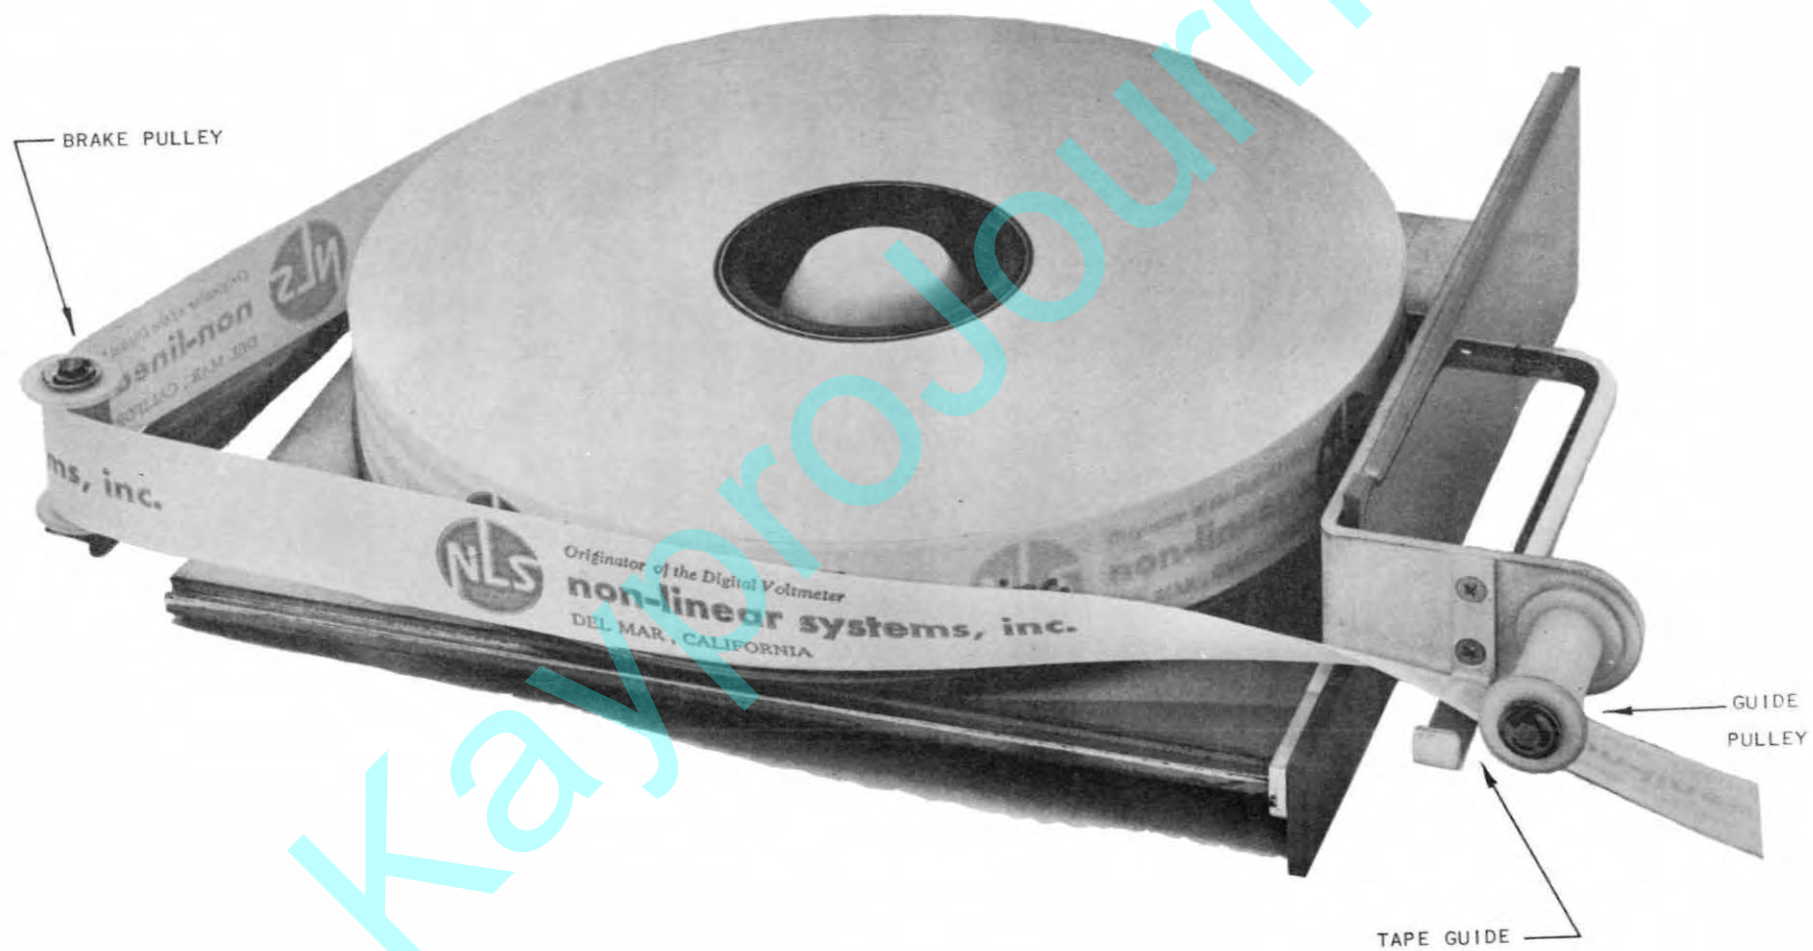

FIGURE 13
1. Remove the Tape Supply drawer from the RS3. Place the roll of tape on the turntable so that it feeds toward the rear as shown in Figure 13.